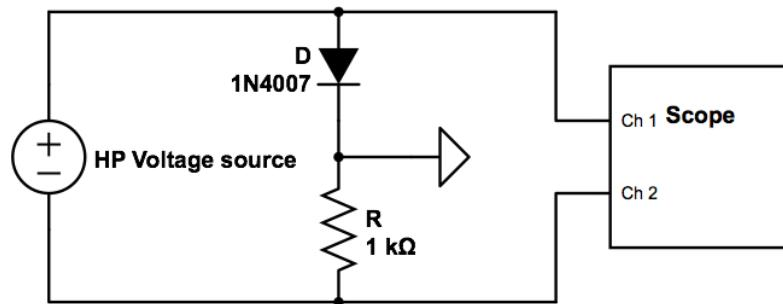
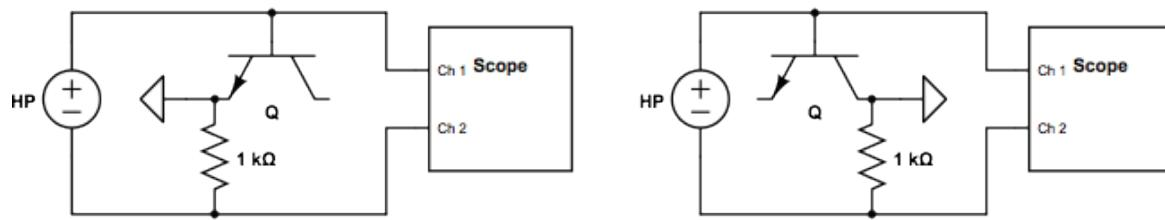

Figure 16: This circuit can be used to measure the I-V curve of the diode directly.
Figure 21: I-V Curve measurements of the pn-junctions in a npn 2N3904 transistor.
The I-V curve of a diode can be measured with the setup shown in Figure 16:
**Important: In the circuit of Figure 16 the HP voltage source should not be grounded on either side (neither the red nor the black output should be connected to the green output at the HP. Check that!)**
Replace the HP in Figure 16 by the output terminals of the transformer. Set the scope to X-Y mode where the position of the signal on the horizontal axis is proportional to the diode voltage (Ch1) and the vertical position to the current (Ch2). Try it out and show it to the instructor.
Set up the left circuit in Figure 21 and measure the I-V curve of the base-emitter pn-junction within the transistor (see instructions around Figure 16 in Chapter 3). Then measure the I-V curve of the base-collector pn-junction (right circuit in Figure 21). Compare the two results with each other and with the simple diode measurement (Fig. 16).